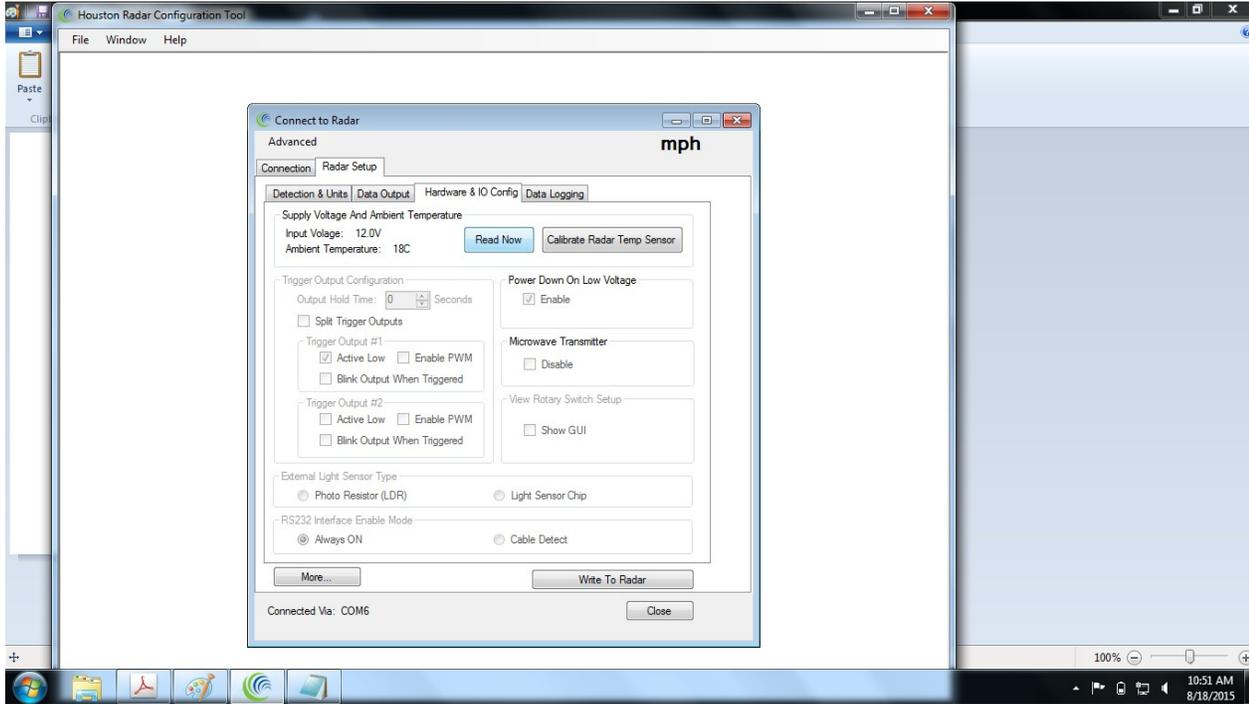

Figure 13
10.) Click on the Hardware & IO Config Tab. Click on the Read now and note the values for the Input Voltage and Ambient Temperature. The Input Voltage should be between 9.6V and 21V. If the Input Voltage is less than 9.6 volts, then excessive voltage drop has occurred. The cause is almost always that the radar wiring is too long and a high wire resistance. See Figure 13.